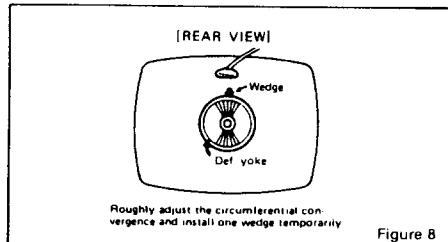

Figure 8
7.3 Adjust convergence around the edges of the picture tube by tilting the yoke up-down and left-right, and temporarily install one wedge at the top of the yoke or in a more optimum position. (Figures 8, 9, 10)